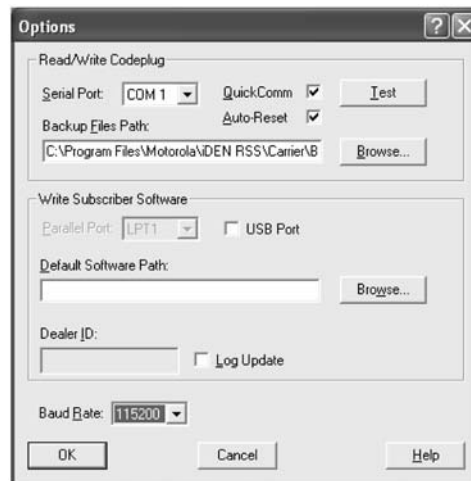

Figure 6-2. Options Dialog Box
- Correct serial port/RS-232 Data Cable for iDEN unit. For better performance, check “QuickComm” in the RSS Options dialog box (see Figure 6-2).
- USB Cable: Check “USB Port” under “Write Subscriber Software” in the RSS Options dialog box (see Figure 6-2).